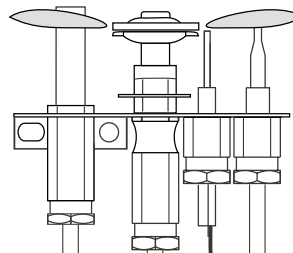

Figure 22. *Pilot Burner*.
2. Turn Adjustment Screw until flame is proper size. (See figure 22).